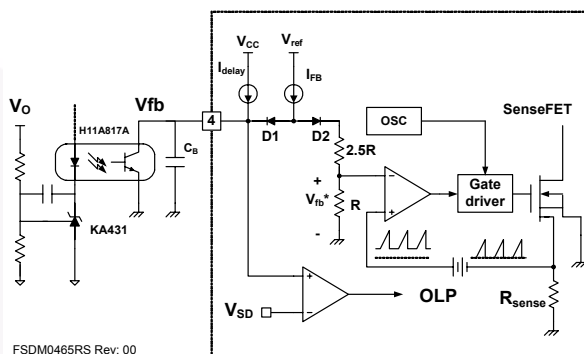

Figure 18. Pulse Width Modulation (PWM) Circuit
2. Feedback Control: FSDM0465RS employs current mode control, as shown in Figure 18. An opto-coupler (such as the H11A817A) and shunt regulator (such as the KA431) are typically used to implement the feedback network. Comparing the feedback voltage with the voltage across the R_{SENSE} resistor plus an offset voltage makes it possible to control the switching duty cycle. When the reference pin voltage of the KA431 exceeds the internal reference voltage of 2.5V, the H11A817A LED current increases, thus pulling down the feedback voltage and reducing the duty cycle. This event typically happens when the input voltage is increased or the output load is decreased.
2.1 Pulse-by-Pulse Current Limit: Because current mode control is employed, the peak current through the SenseFET is limited by the inverting input of PWM comparator (V_{FB}^*) as shown in Figure 18. Assuming that the 0.9mA current source flows only through the internal resistor ($2.5R + R = 2.8k\Omega$), the cathode voltage of diode D2 is about 2.5V. Since D1 is blocked when the feedback voltage (V_{FB}) exceeds 2.5V, the maximum voltage of the cathode of D2 is clamped at this voltage, thus clamping V_{FB}^* . Therefore, the peak value of the current through the SenseFET is limited.